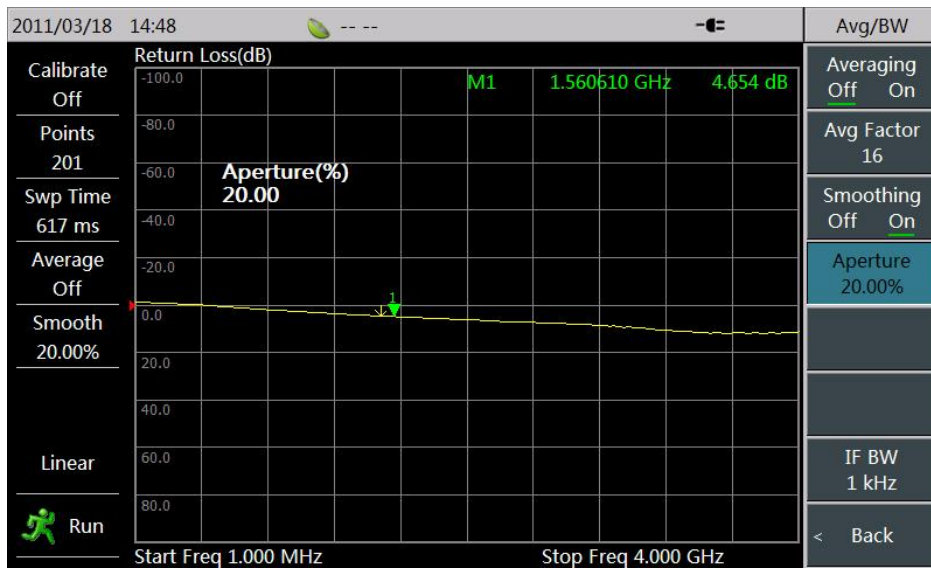

Figure 3-25 Set Smooth Apertures
- Click the touch screen [Smoothing Off On] menu to turn on or off the smoothing function, as shown in Figure 3-25: